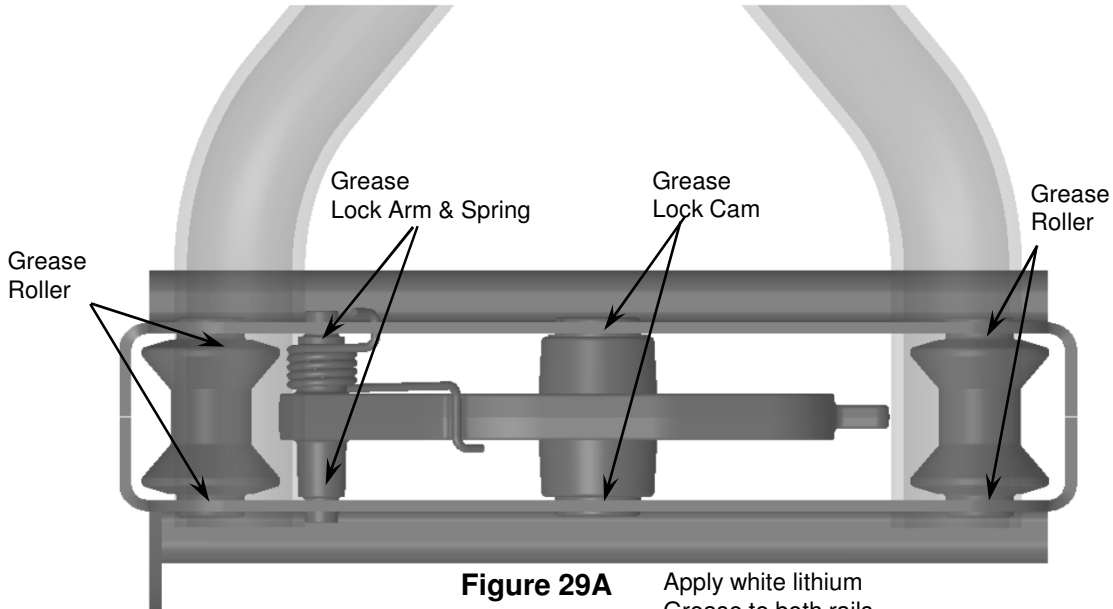

Figure 29A
3. **Lubricate Rollers, Lock Cam, Lock Arm, Slider Rails & Spring on Slider Assemblies every 6 months with lithium grease to keep assemblies moving freely. See Figure 29A & 29B.**